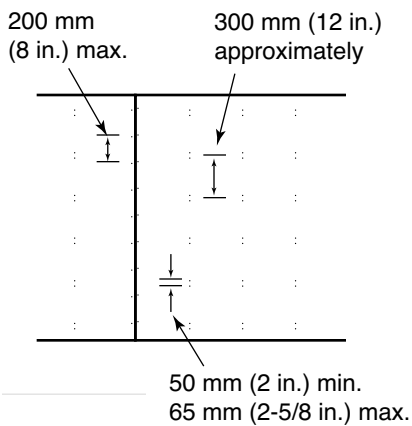

FIGURE 60
- ◆ Use screwing or double nailing to draw the board tighter to the stud (see Figure 60).